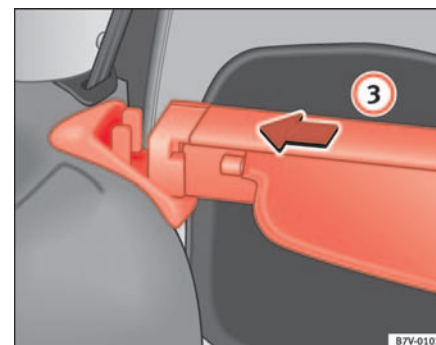

Fig. 115 Luggage compartment: holders on the left
- Push the luggage compartment cover to the stop in the direction of the arrow ⇒ page 145, fig. 115 ③ into the left-hand holder.